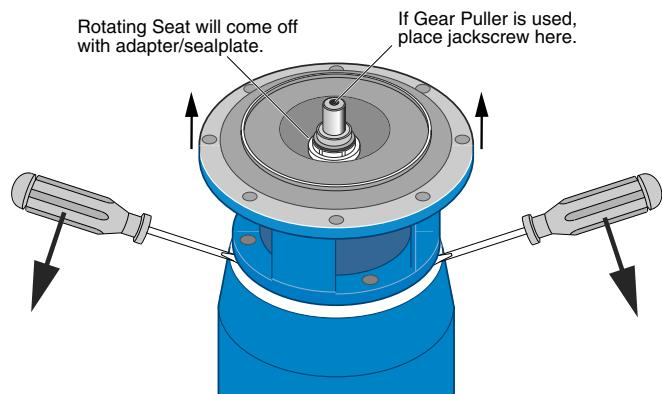

Figure 4
- Step 7. Use two screwdrivers (Figure 4) or gear puller to carefully separate motor from adapter/seal plate, bringing rotating half of seal (Key No. 10) off with adapter/seal plate. Shaft sleeve (Key No. 2A) may come off with seal.